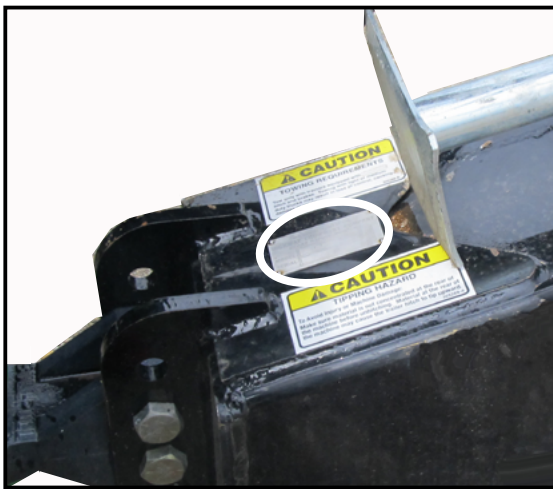

Figure 35 - TR1000 Serial Tag
- TR1000 Front end of trailer tongue above hitch (Figure 35)